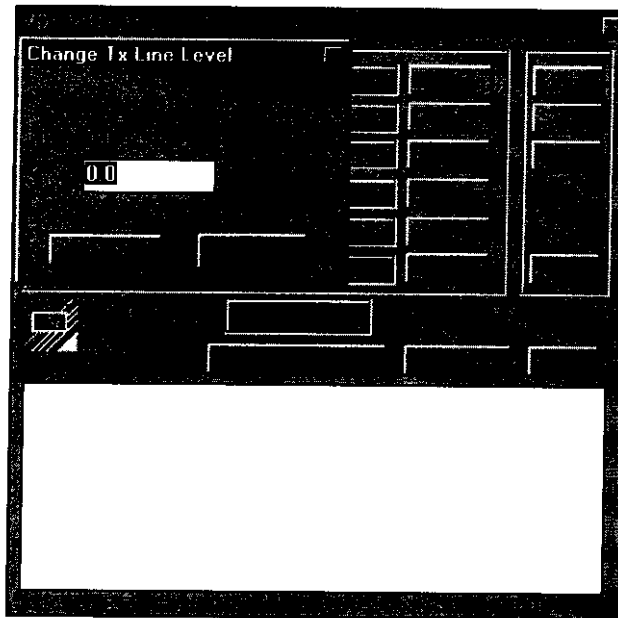

Fig 15 Setting the Tx Line Gain
- Check that the Tx Line Level screen is superimposed (see Fig 15).
- Using the mouse, click in the box showing the current line gain setting (Fig 15 shows 0.0 dBm). Delete the current value and enter the required value from the PC's keyboard.